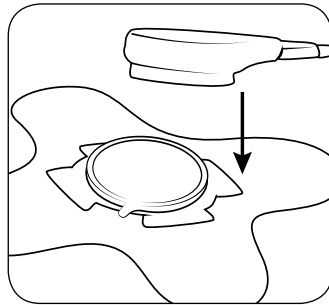

figure 9B: Attach Applicator
- B. Attach the applicator, face down, into the coupling media (Figure 9B).